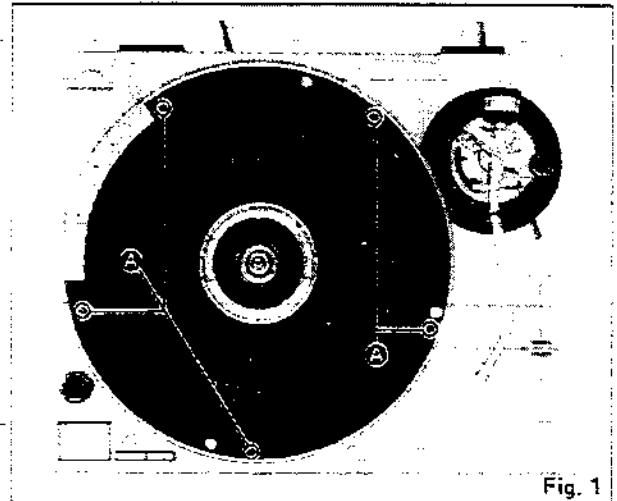

Fig. 1
3. Remove 5 screws (A) of the panel cover as shown in Fig. 1.